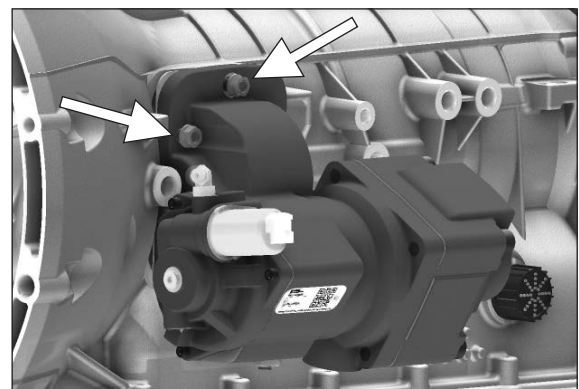

Figure 32
- Install the PTO over the studs and attach the self-locking nuts to the top shoulder stud and left top shoulder stud. **DO NOT** tighten down at this time (**Fig. 32**).